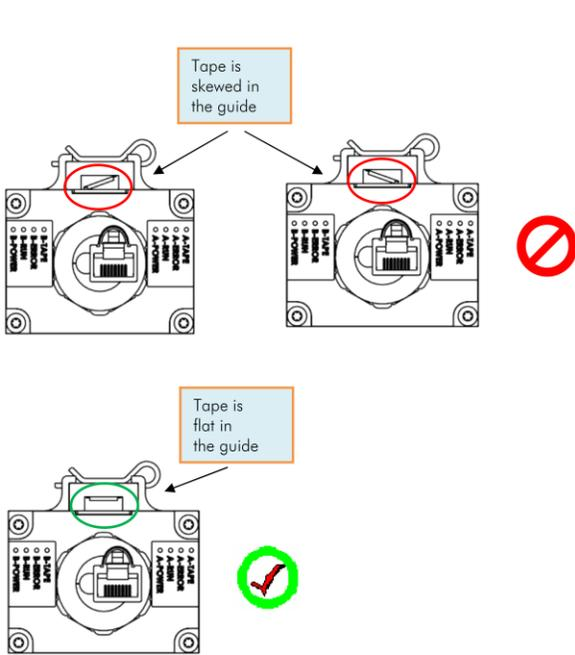
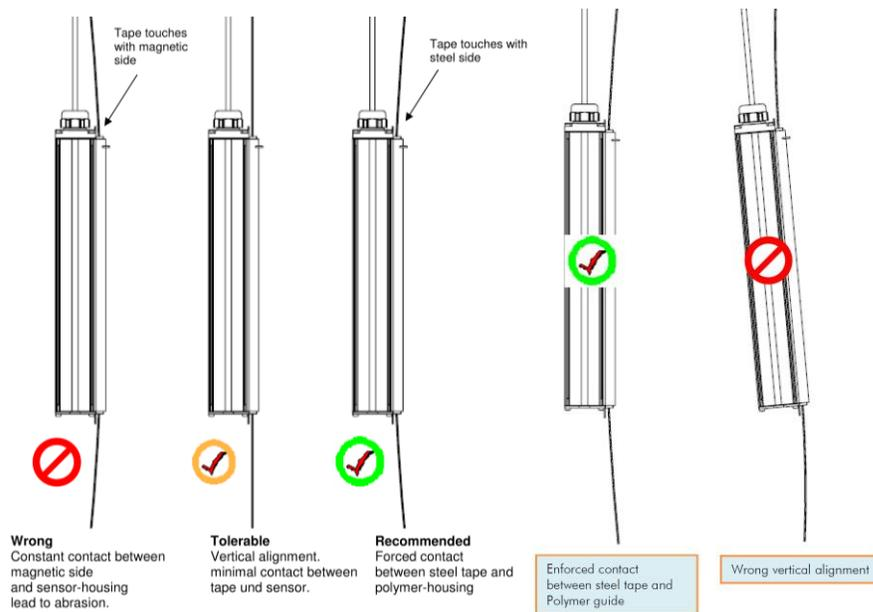

Figure 12: Angular Alignment Guideline
Figure 14: Horizontal Offset Alignment Guideline.
5. Adjust now the distance between sensor head and tape. Up to a travel height of 165ft, we recommend an offset of at least 0.6” (15mm). This will ensure steady contact between steel side of the tape and the polymer guide of the sensor. In higher installations this distance may be increased.(see Figure 14)
Pay attention to the perpendicular alignment of the sensor head. Misalignment will cause wear. (see Figure 14)
7. Check for proper alignment of tape vs. sensor. Any angular offset should be corrected. (See Figure 12 Figure 14 above)
Run an inspection trip the entire length of the hoistway. Observe the system paying attention to the respective positions of tape and sensor. You have achieved an optimal installation if the steel side of the tape is constantly but slightly pressed against the polymer guide of the sensor. At several points in the hoistway, double-check the bottom side of the sensor head. If the sensor is tilted it may look good on top but the tape can still grind along the bottom edge of the sensor. (See Figure 14)